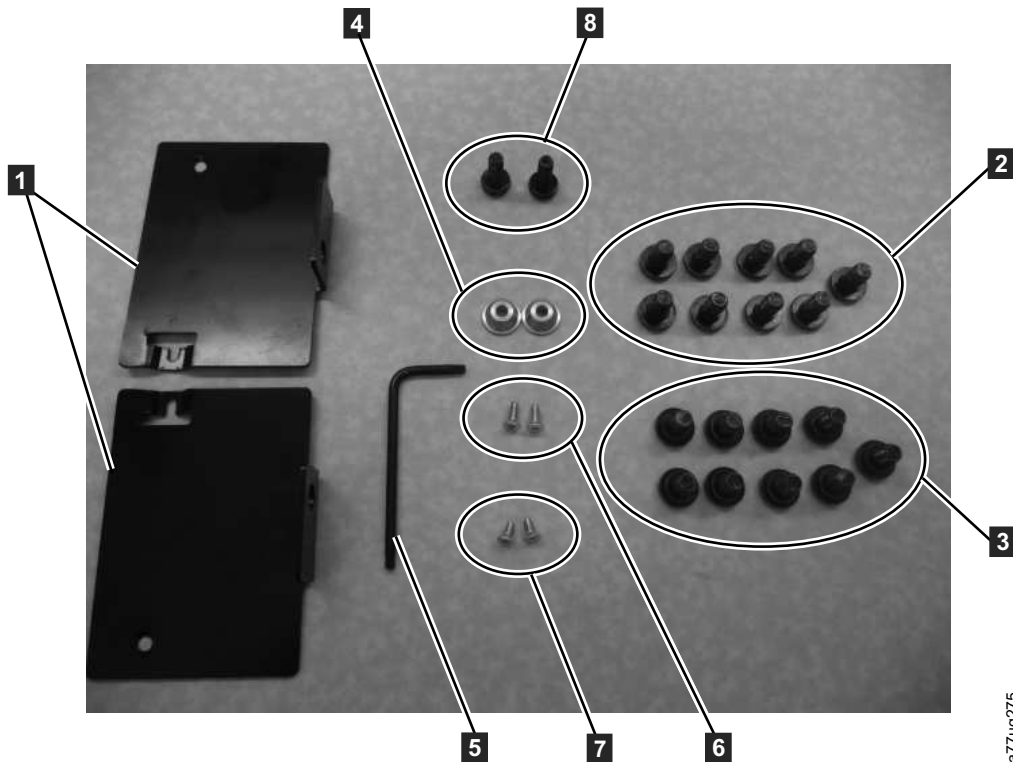

Figure 24. Rack Kit A mounting hardware
1. Verify which rack kit was included in your shipment. Although there are two different rack kits, the steps to install them are the same. After verifying which Rack Kit you received, see Figure 24 on page 41 for the installation steps.
- 2 mounting brackets (**1** in Figure 24)
- 1 Torx wrench (**5** in Figure 24)